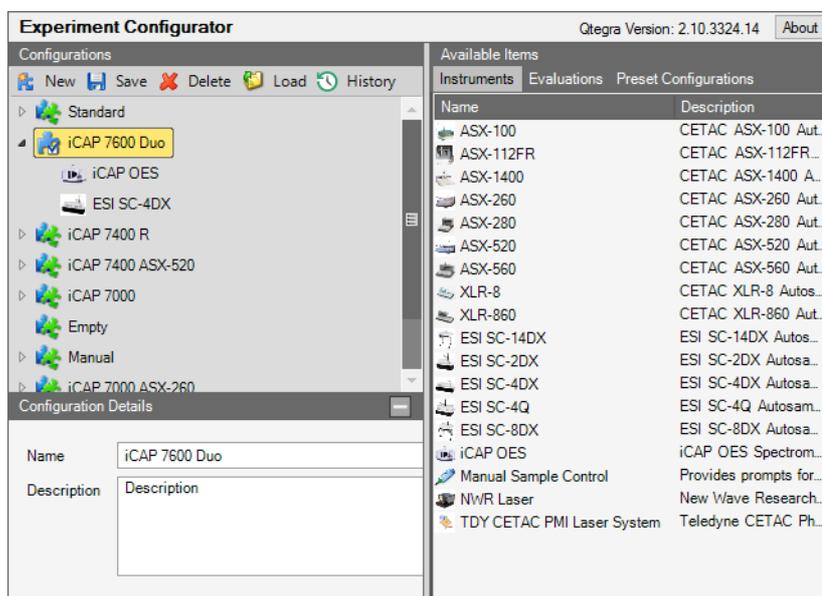

Figure 3-7. Layout of the Experiment Configurator applet
In the Experiment Configurator applet, all virtual instruments, virtual evaluation types and preset configurations are listed on tabbed pages, see Figure 3-7.
4. From the right-hand pane of available **Instruments**, select your instrument, see Figure 3-7.